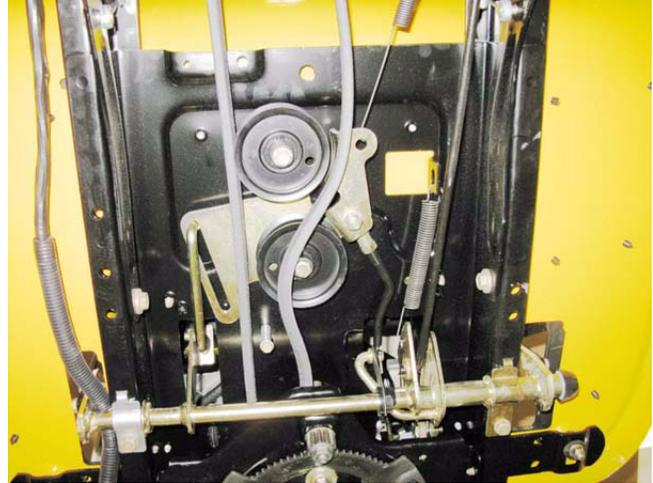

Figure 6.63
- 5a. Slip the belt off of the two tensioner pulleys. See Figure 6.63.